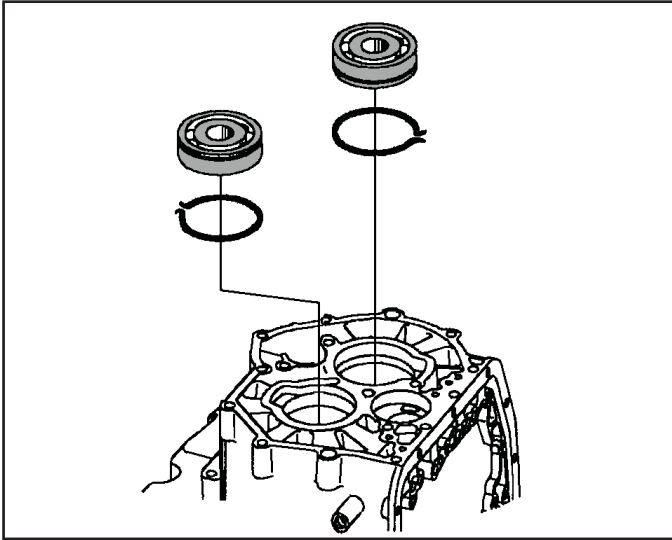

Figure 81
37. To remove the input and output shaft case bearings from the transaxle case, use a suitable pair of snap ring pliers to EXPAND the ring far enough to slide the bearing out of its bore by hand (See Figure 81). **Caution: Do not over expand the ring causing the ring to bend and preventing it from recovering to its original tension.**